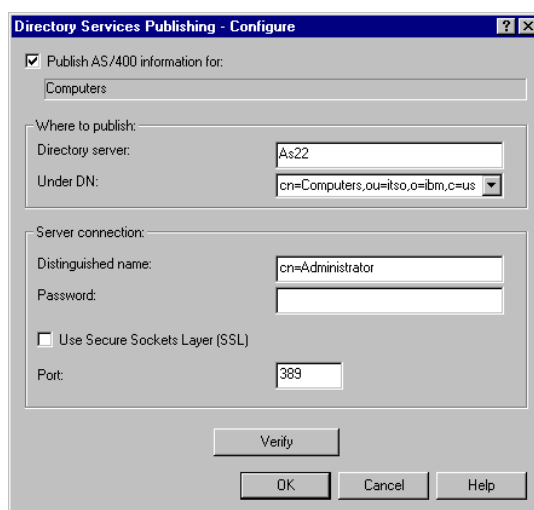

Figure 146. Publish AS/400 information
3. Select **Computers** and click on the **Configure** button. The check next to Computers in Figure 146 indicates that it is already configured and enabled to publish Management Central information to the LDAP server from the central system.
4. If Computers was not checked, use the dialog box, as shown in Figure 146, to supply the necessary LDAP server configuration information, and select **Publish AS/400 information for Computers**.
In Figure 146 on page 179, if you did not select Publish AS/400 Information for:, then the Management Central information is not published. Once you configure for the LDAP, it is easy to turn on and off the publishing of AS/400 Management Central information to the LDAP server with this check box.